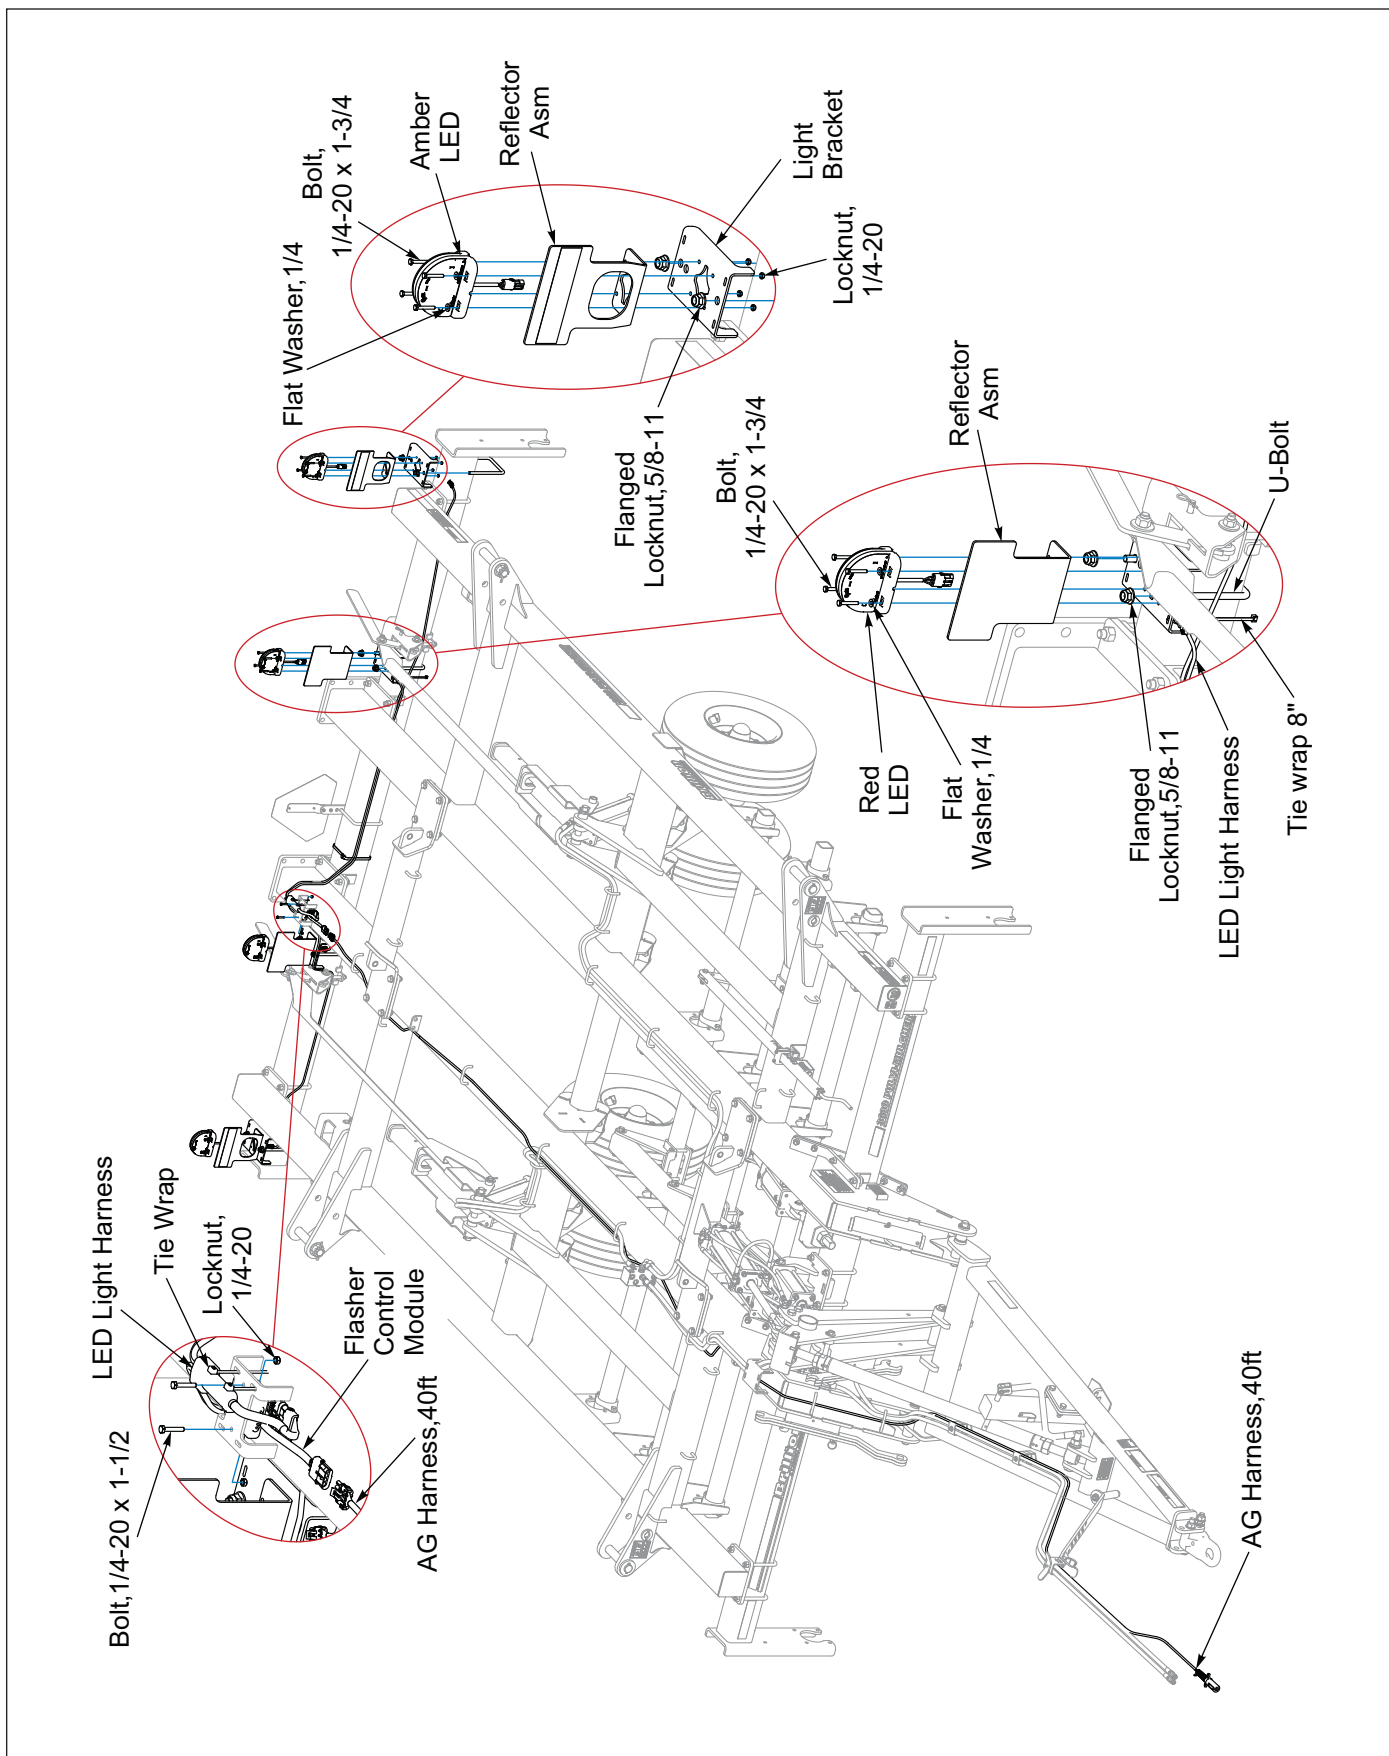

Figure 2-40: LED Warning Lamp Layout
1. Attach the Light Brackets onto the Rear Roller Frame Tube with 5/8-11 U-Bolts and Flanged Locknuts. See **Figures 2-40 and 2-41**.